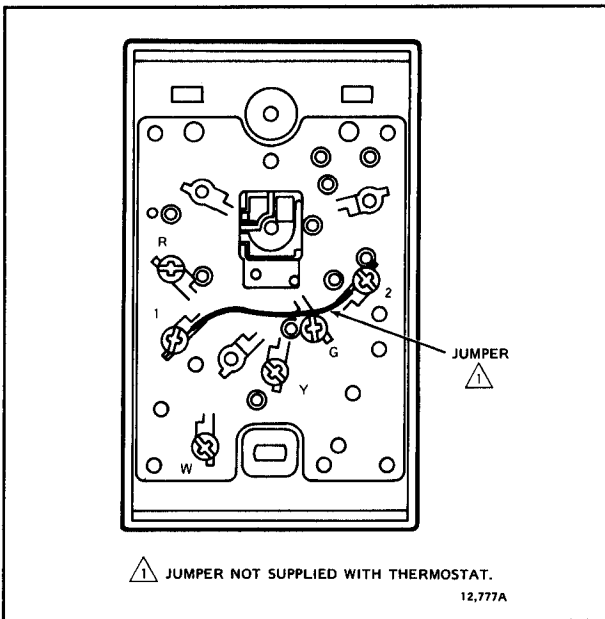

FIG. 3—JUMPER TERMINALS 1 AND 2 TO CONTROL FAN OPERATION DURING HEATING (ELECTRIC HEAT APPLICATIONS).
3. Connect the wires to the terminals on the back of the thermostat. See Figs. 5-9 for internal schematic and typical hookup diagrams. For systems requiring thermostat control of fan operation in heat (some electric heat applications), jumper terminals 1 and 2. See Fig. 3.
3. Connect the wires to the terminals on the back of the thermostat. See Figs. 5-9 for internal schematic and typical hookup diagrams. For electric heat applications jumper terminals 1 and 2 to control fan operation from the thermostat during heating. See Fig. 3.